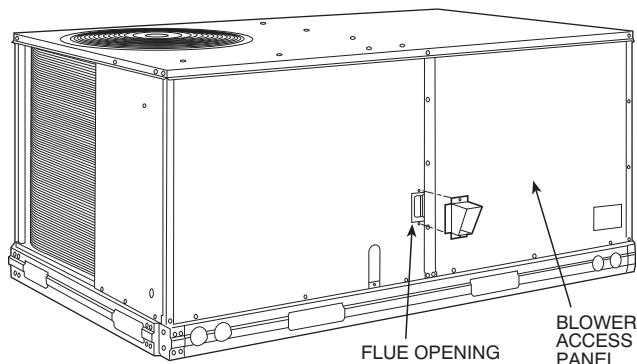

Fig. 14 — Flue Hood Details
Step 8 — Install Flue Hood — Flue hood is shipped screwed to the basepan beside the burner compartment access panel. Remove from shipping location and using screws provided, install flue hood and screen in location shown in Fig. 14. Insert the flue hood's side flange through the access panel cut-out, then rotate the flue hood until the top and bottom flanges contact the outside of the access panel; secure flue hood with screws.